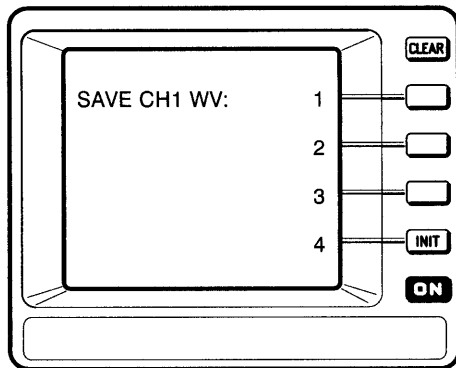

Figure 3-25: Saved Waveforms Menu
- Step 4:** Press the **SAVE** button on the top panel. Acquisition stops, the screen freezes, and a menu appears as shown in Figure 3-25.
The example in Figure 3-25 assumes a waveform acquired using channel 1.